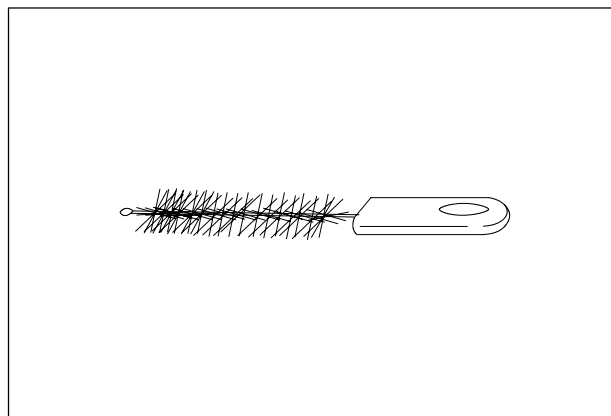

Figure 7.5
The channel-opening cleaning brush is used to brush the suction valve housing, the suction cylinder and the instrument channel port (see Figure 7.5).
1. Check for loose or missing bristles (see Figure 7.5).